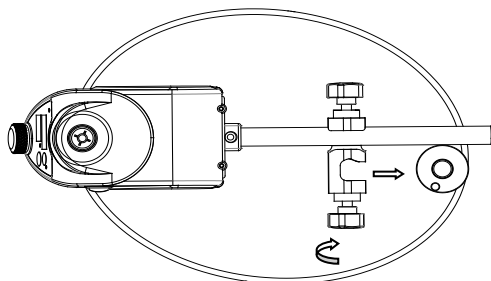

Figure 6
6. Put the stand rod in the left groove of the active block, use the knob adjust it. (refer to figure 6).